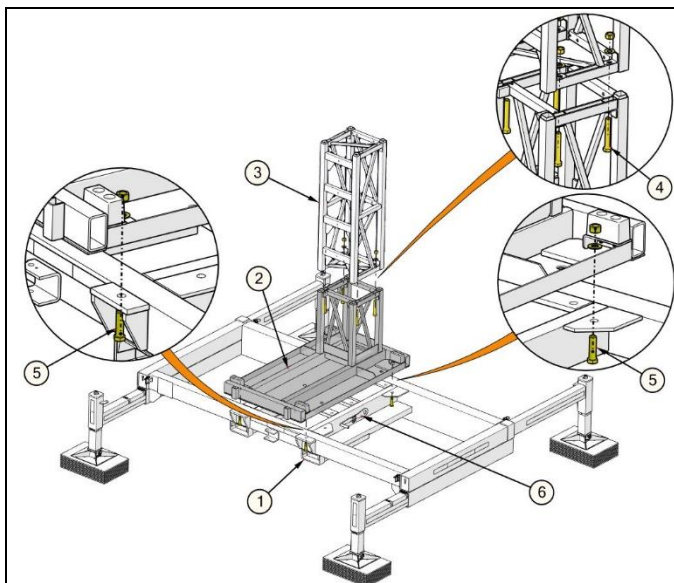

Figure 55 - Installation of ground base on universal freestanding base
Step 4 – Install the bolted base (14030019) or the bolted base (14030110) directly on to the universal freestanding base (14030109) as shown in Figure 55. Then, bolt the first mast section of the lifting unit (13030041) to the ground base (14030019) or the bolted base (14030110).
Step 4 – Install the ground base (14030019) or the bolted base (14030110) directly onto the 20K universal freestanding base (14030053) as shown in Figure 55. Then, bolt the first mast section of the lifting unit (13030041) to the ground base (14030019) or the bolted base (14030110).